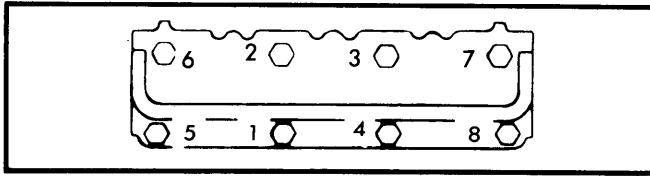

Fig. 3 Cylinder Head Tightening Sequence
2) Install gaskets with note "This Side Up" showing. Install cylinder heads, applying sealing compound to head bolt threads and tighten in sequence. See Fig. 3.